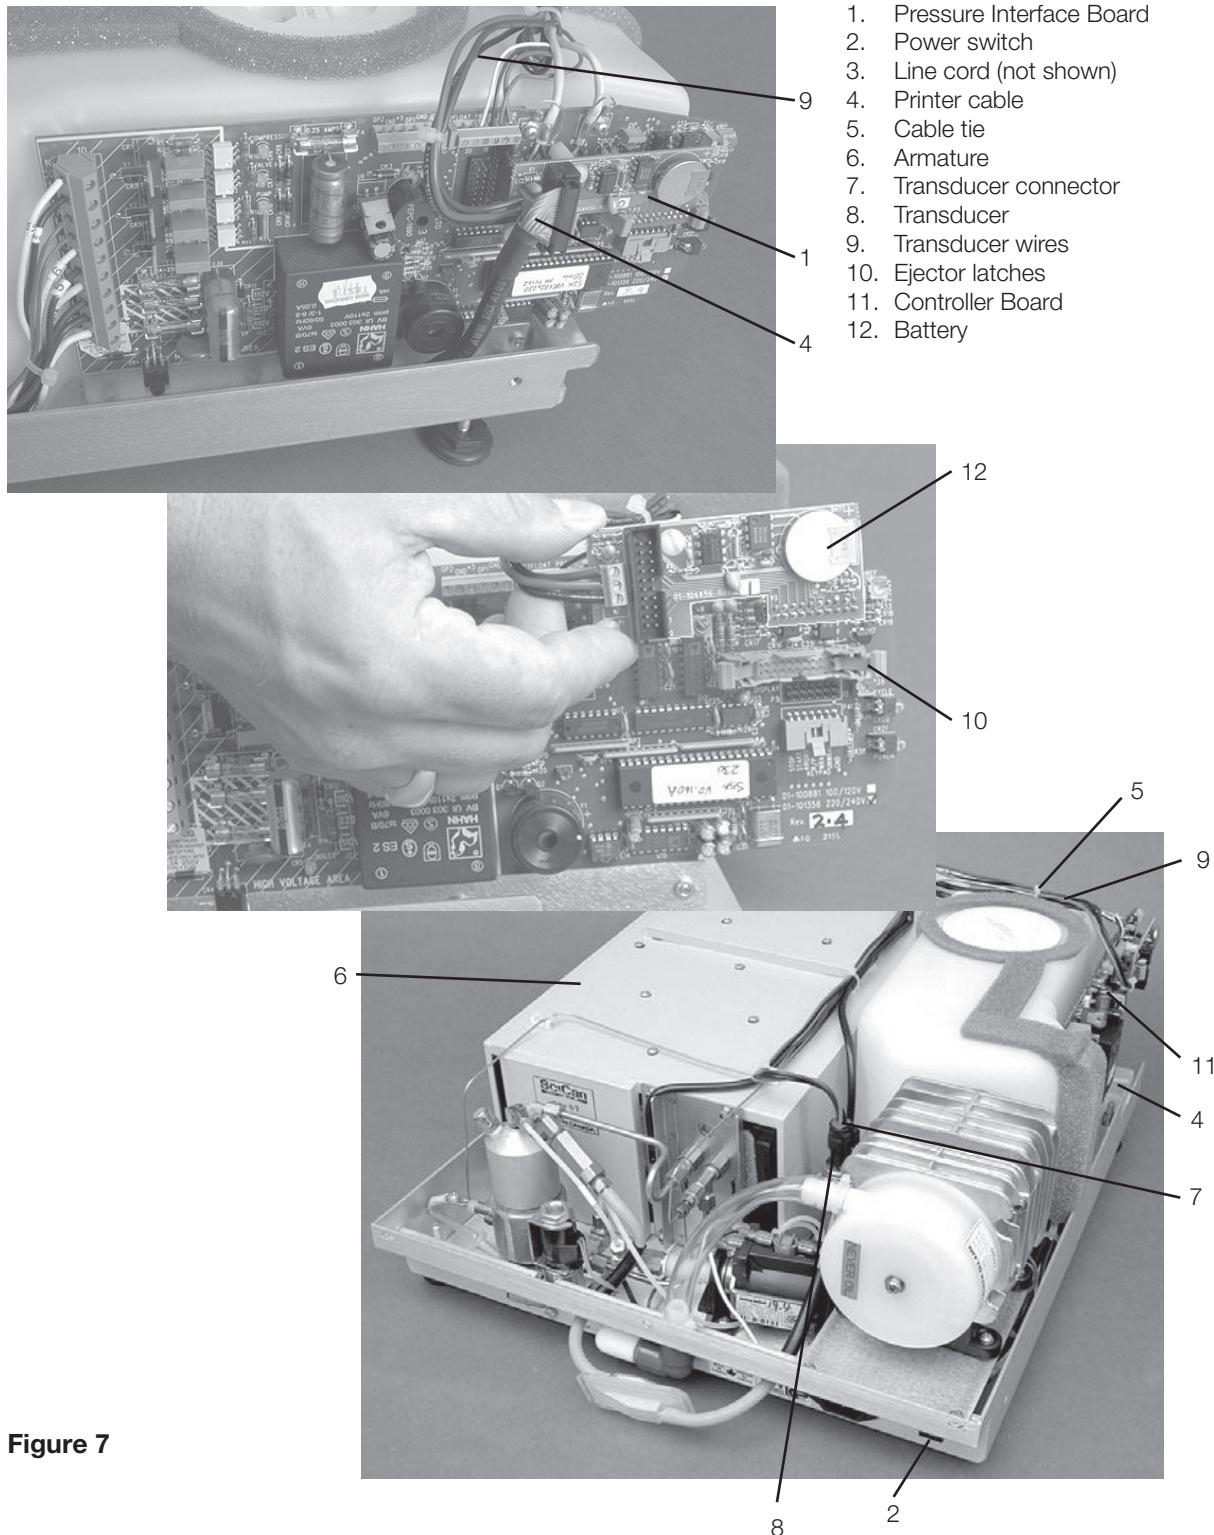

Figure 7
To remove the Pressure Interface Board (1), proceed as follows (see Figure 7):
1. Turn the power switch (2) OFF, and unplug the power cord (3) (not shown).
2. Disconnect the printer cable (4) (if present) from pressure interface board connector P2.
3. Disconnect the transducer wires (9) from pressure interface board terminal positions P1-1 'SIG' (blue wire, signal), P1-2 'V+' (red wire V+) and P1-3 'GND' (black wire, ground).
4. Press the ejector latches (10) of controller board (11) connector P2 to unseat the pressure interface board and remove the board.
To reinstall the pressure interface board (1), proceed as follows (see Figure 7):
1. Orientate the pressure interface board with the component side of the board facing away from the controller board (11) and the P2 connector on the left-hand side. Gently seat the pressure interface board onto the controller board P2 connector until the ejector latches are in an upright position. Do not crush or pinch the thermocouple leads. Support the controller board to avoid excessive deflection when pressing the interface board onto the connector.
2. Connect the transducer wires (9) to Pressure Interface Board terminal positions P1-1 'SIG' (blue wire, signal), P1-2 'V+' (red wire V+) and P1-3 'GND' (black wire, ground).
3. Connect the printer cable (4) (if present) to the pressure interface board connector P2. Ensure that Pin 1 of the keyboard cable aligns with Pin 1 of pressure interface board P2.
4. Plug in the power cord (3) (not shown) and turn the power switch (2) ON.
To remove the battery (12), proceed as follows (See Figure 7 and 8):